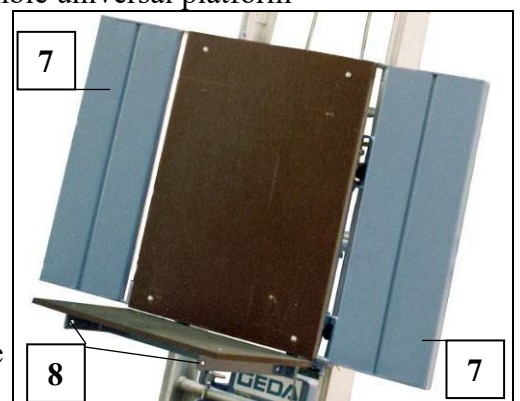

Fig. 44 Universal platform
- Remove the outside nuts (11) and split washers from the preassembled screws (M12 x 40).
- Feed the front guard with the screws (10) on the front bore holes of the bearing section (see Fig. 44 Pos. 8) of the universal platform.
- Mount the split washers and nuts (11) on both sides.
- Tighten both outside nuts (11).